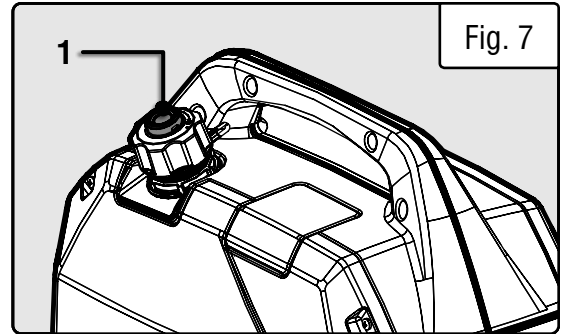

Fig. 7
7. Open the vacuum relief valve on top of fuel cap (Fig. 7 - 1) by rotating it clockwise to the “ON” position. This will allow fuel to flow.